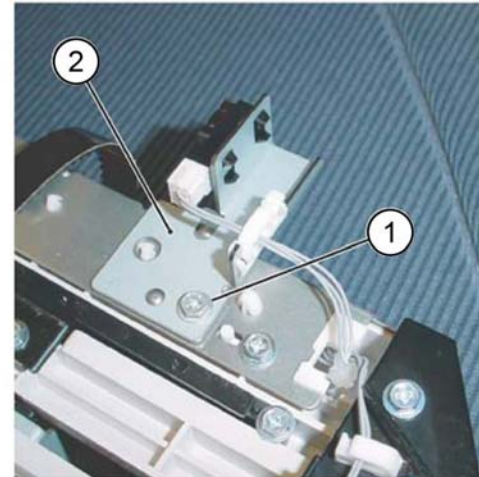

Figure 1 Eject home sensor assembly
3. Move the eject home sensor assembly, Figure 1:
- a. Remove the screw (1).
- b. Move the eject home sensor assembly (2).